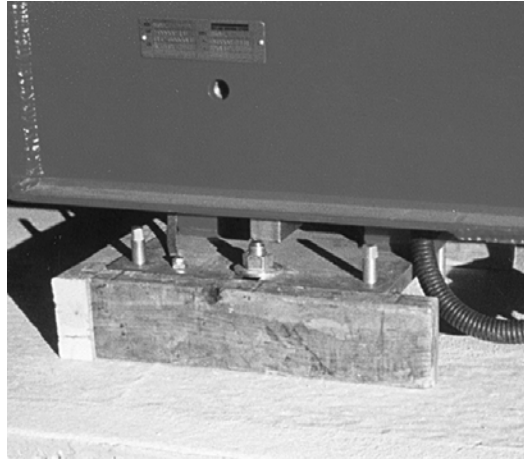

Figure 4-12. Temporary Wooden Forms Around Baseplate
11. Erect temporary wooden forms around each baseplate and pour 9000 PSI, non-shrinking, epoxy or cement grout into the forms beneath the baseplate (see Figure 4-12). A funnel with a long tube can be used to pour grout into the forms while working from above the access hole.